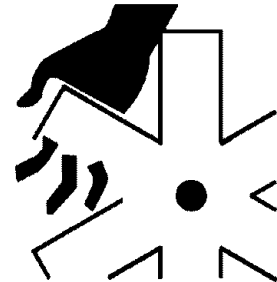

Fig.7
- Keep your hand away from the blower intake port during operation. The fan operates at high speed and is dangerous.(Fig.7)